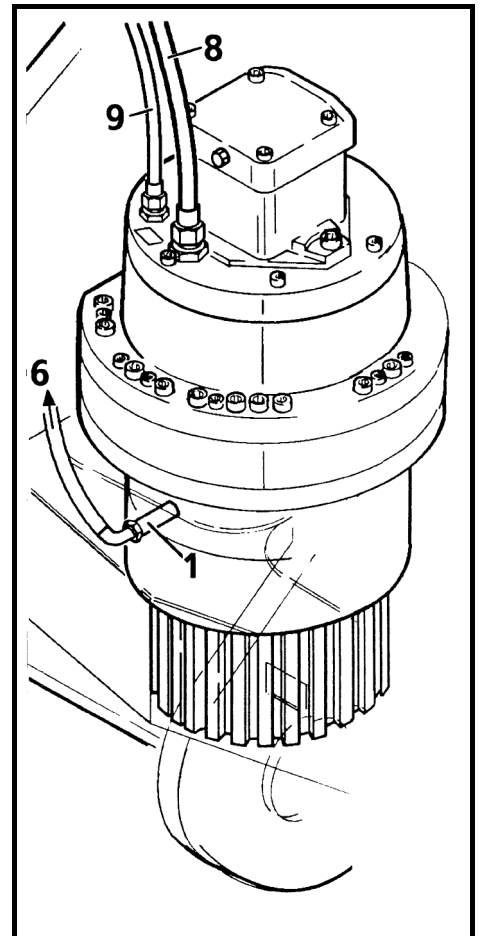

Fig. 18
The lower fitting for oil drain of each gear (Fig. 18, pos. 1) is directly connected to a coupling 6 of the service plate.